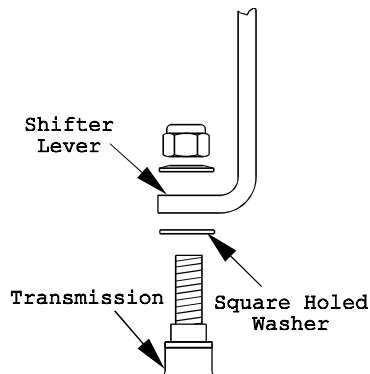

FIG. 6 SHIFTER LEVER TO TRANSMISSION
- a) Remove the 3/8" nyloc nut and spring disc washer from the stud on top of the transmission. Install the shifter lever through slot in shifter lever plate and onto the stud on top of transmission. Be sure the square-hole washer remains between the lever and transmission. Replace the spring disc washer and nyloc nut (see figure 6). Torque the 3/8" nut to 35ft. lbs. (47N.M).